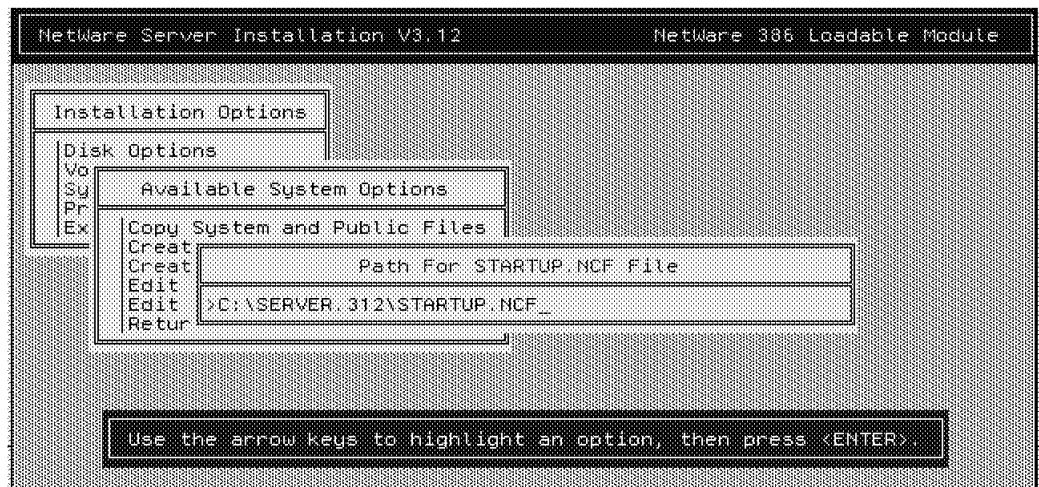

Figure 88. Path for `STARTUP.NCF` File
44. Press Enter to accept the default path (see Figure 88).